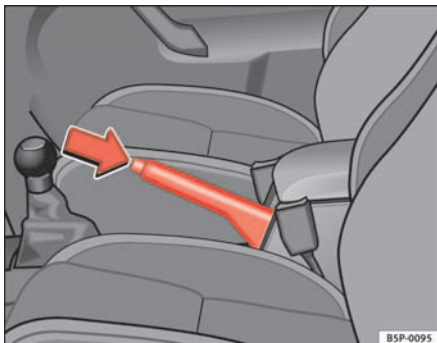

Fig. 97 Handbrake between the front seats
- Pull the handbrake lever up firmly ⇒ fig. 97.
- Pull the lever up slightly and press the locking knob in the direction of the arrow ⇒ fig. 97 and guide the handbrake lever down fully ⇒ ⚠.